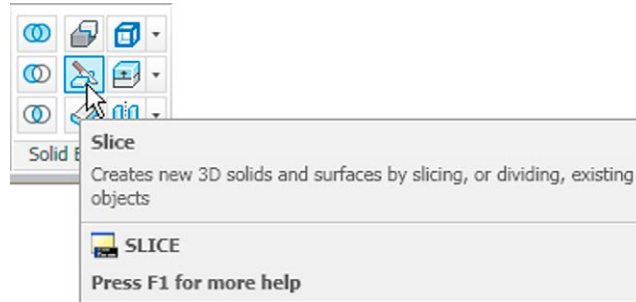

Fig. 14.22 The **Slice** tool icon from the **Home/Solid Editing** panel
3. Call the **Slice** tool from the **Home/Solid Editing** panel (Fig. 14.22).